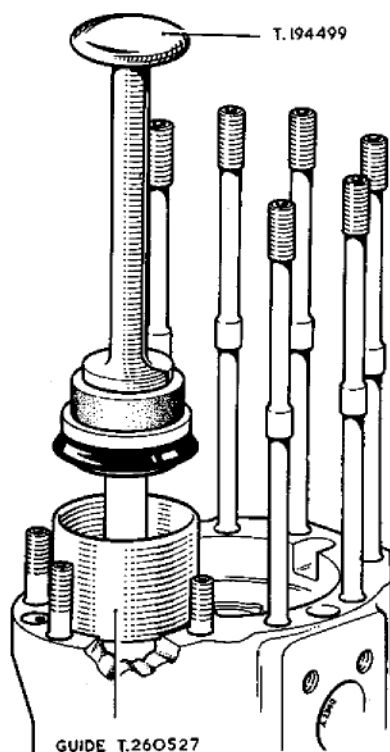

Fig. 8. Fitting the control piston assembly
Fitting the control piston assembly (fig. 8)
62. Fit a new felt ring to the bore in the pump body. Locate the guide T 260527 on the control cylinder liner, fig. 8 and push the control piston into position, using the tool T 194499. Invert the pump.